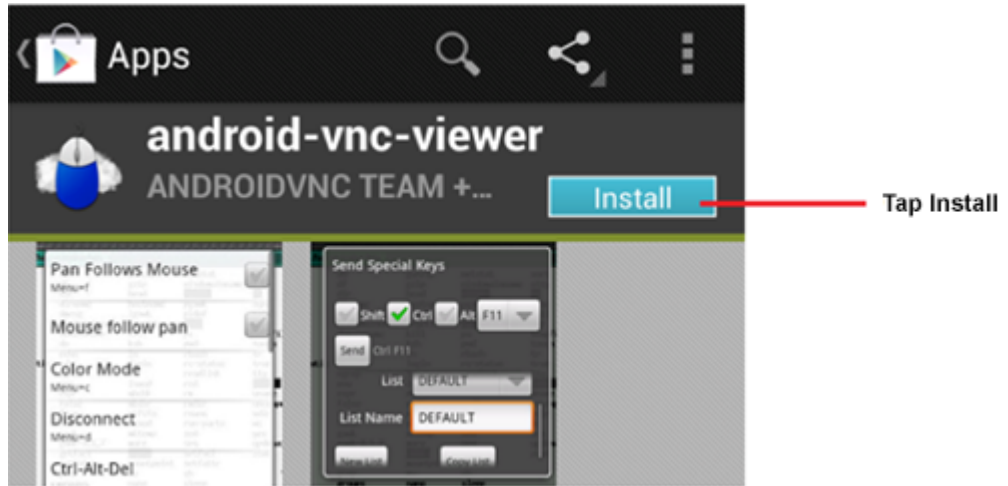

Figure 56: Android-vnc-viewer Install Screen
9. Install the VNC software by searching and installing from the Google Play store. Search for *Android-vnc-viewer* and install the application by tapping on the **Install** button. (Figure 56)